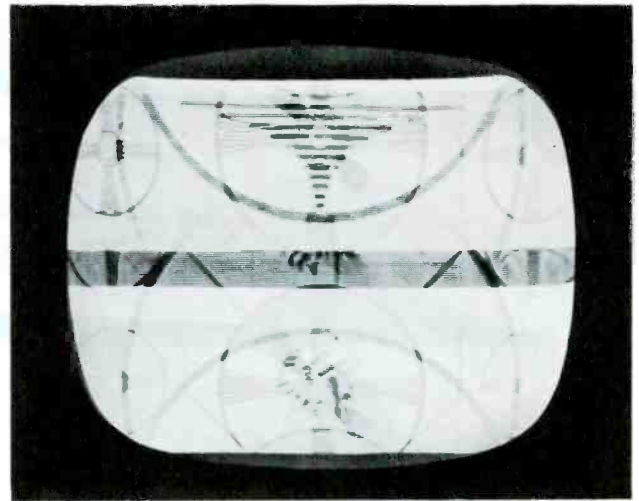

Fig. 17. Test Pattern Showing Loss of Vertical Synchronization.
Complete loss of vertical synchronization is indicated in Fig. 17. There are two basic causes of loss of vertical synchronization: (1) lack of a sufficient sync signal and (2) change in the natural frequency of the vertical oscillator. It is the function of the vertical sync pulses to trigger the vertical oscillator into conduction in step with the sweep oscillator of the transmitter. This can be accomplished only if the natural or free-running frequency of the oscillator in the receiver is a little lower than 60 cycles per second.